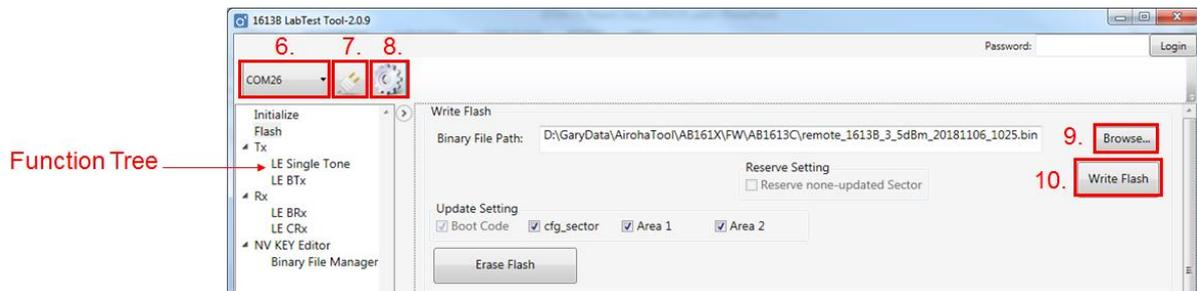

Figure 6. Tool Window
- 6) Select a COM port for a specific device, as shown in Figure 6.
- 7) Click the  button to open the “Serial Port Settings” window, set the baud rate to 2000000, and then click “Apply” button, as shown in Figure 6.
- 8) Click the  button to enable the COM port and connect to the AB161x, as shown in Figure 6.
- 9) Click the “Browse...” button to select the location of the firmware, as shown in Figure 6.
- 10) Click the “Write Data” button to download the firmware, as shown in Figure 6.